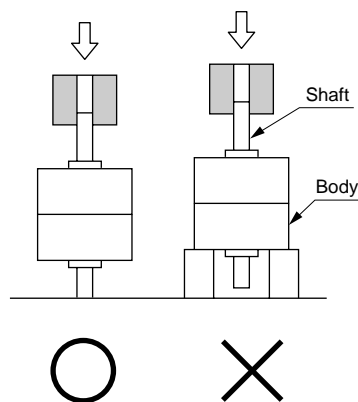

Fig.3
- When installing a load or jig, etc., on the rotary actuator shaft, check that load is not applied as shown in Fig. 3.
(3) Turn the angle adjustment hexagon bolt, hexagon nut, and seal washer together as shown in Fig. 3, and adjust the angle. Check that the rubber section of the seal washer does not bite into the screw.